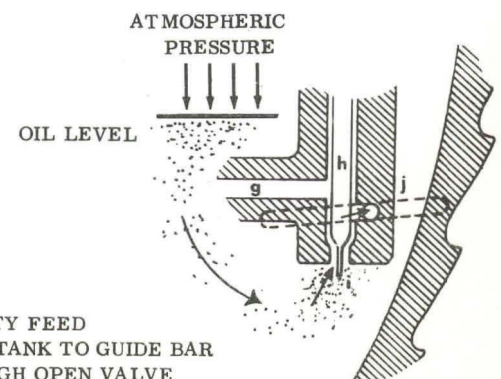

FIGURE 3
3. If the output is greater with needle valve open than with the valve closed, the pump is not working. With the valve open, there will be a gravity flow through the valve and out the discharge hole as shown in Fig. 3.